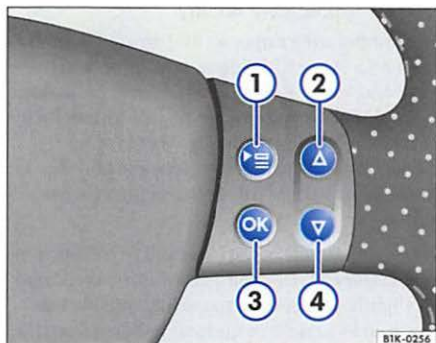

Fig. 19 Multifunction steering wheel: right side
- Press the ⇒ **fig. 19** ① (☰) button on the multi-function steering wheel until the **Set up** menu is displayed.
- Press the arrow keys **⬆** ② or **⬇** ④ to highlight the menu item **Compass**. The highlighted menu item is between the two horizontal lines. There is also a triangle on the right ◀.
- Press the **OK** button ③. The **Compass** menu opens.
- Press the $\Rightarrow$ page 22, fig. 19 ① button on the multi-function steering wheel until the **Set up** menu is displayed.
- Press the arrow keys Δ ② or ∇ ④ to highlight the menu item **Compass**. The highlighted menu item is between the two horizontal lines. There is also a triangle on the right $\blacktriangleleft$.
- Press the button ③. The **Compass** menu opens.